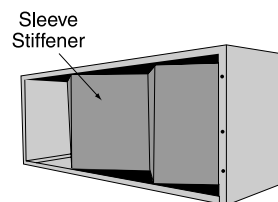
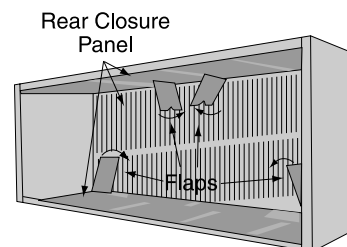

Figure 10. Wall sleeve stiffener
Figure 11. Sleeve rear closure panel
1. Remove the zigzag folded cardboard sleeve stiffener. See Figure 10. Remove the rear closure panel by folding the four flaps as indicated in Figure 11